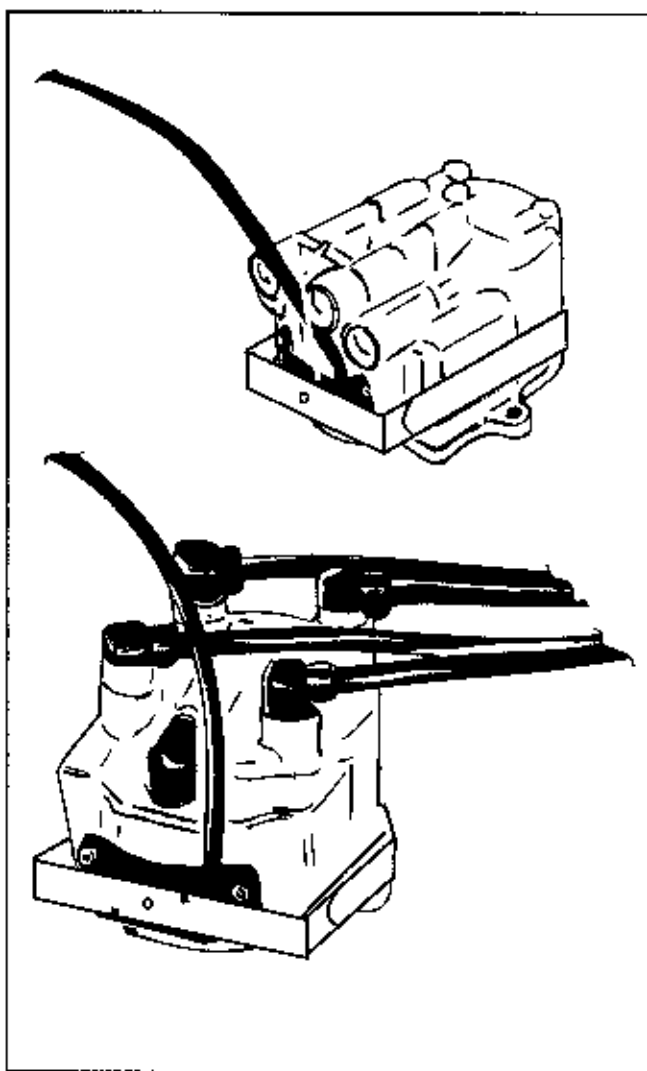

Figure 1-16
3. Wrap adapter probe clip strap tightly around distributor cap, then press velcro ends together to secure (see Figure 1-16).